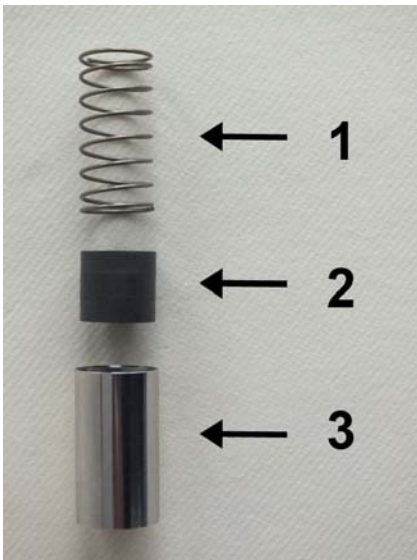

Fig. 40: Spring, magnets and float
7. The inner parts of the flow monitor consist of the spring (Fig. 40/1), magnets (Fig. 40/2) and float (Fig. 40/3).